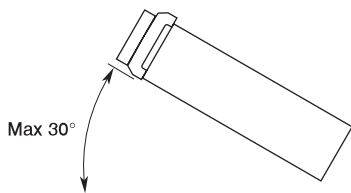

Figure 2
2. Install the unit within 30° of horizontal. (Figure 2)